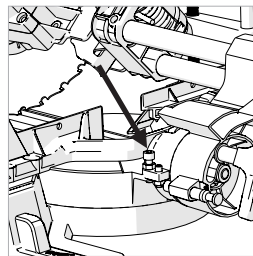

Fig. 23
- Loosen the locknut on the Bevel Angle adjustment screw. (Fig. 23)